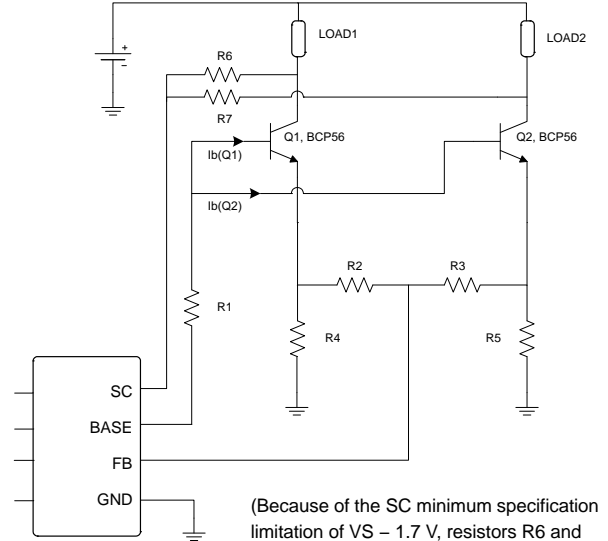
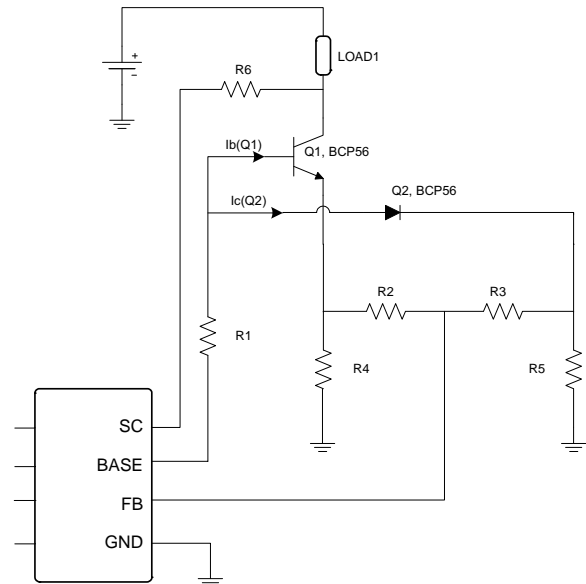

Figure 20. Driving Multiple Strings
Figure 22. Open Circuit Equivalent
Figure 20 along with Figure 21 and Figure 22 highlight the use of the NCV7691 device with multiple strings connected to a common drive BASE pin and using external resistors to tie additional strings to a common feedback point (FB). The FB pin will maintain regulation with the FB pin at 152 mV.
It shows the change in BASE drive which occurs with an open circuit in one of the strings. The drive current out of BASE changes from $(I_b(Q1) + I_b(Q2))$ to $(I_b(Q1) + I_c(Q2))$ as regulation will try to maintain in the loop to get 152 mV on FB. Figure 22 shows the equivalent circuit when an open load occurs.